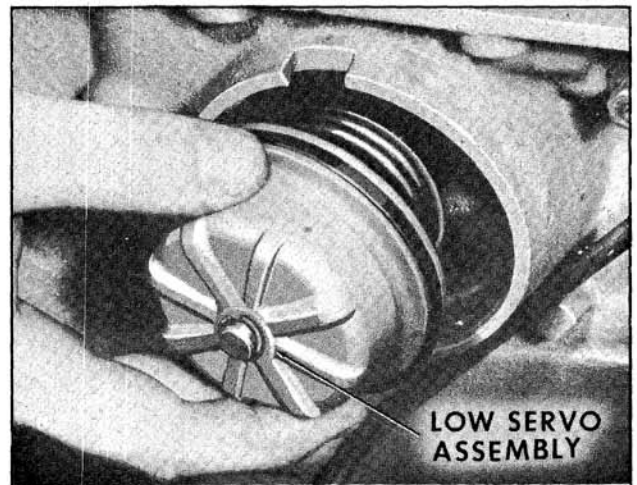

Fig. 6-499 Installing Low Servo
1. Install low servo piston assembly into case (Fig. 6-499)